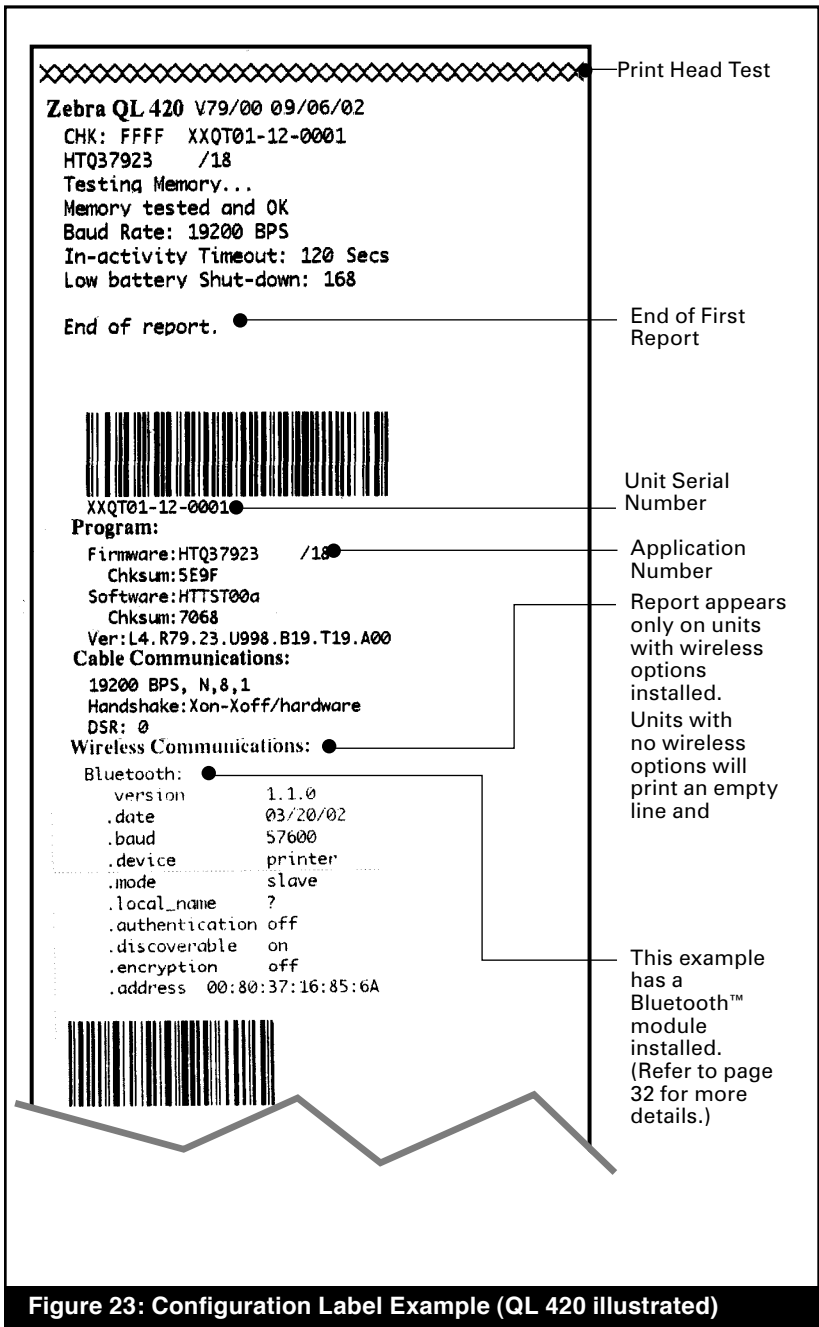

Figure 23: Configuration Label Example (QL 420 illustrated)
Refer to Figures 23 and 24 for sample configuration print-outs.
- Unit serial number (Found on the large label on the back of the printer, also found in the configuration label print-out. Refer to Figures 23 and 24)